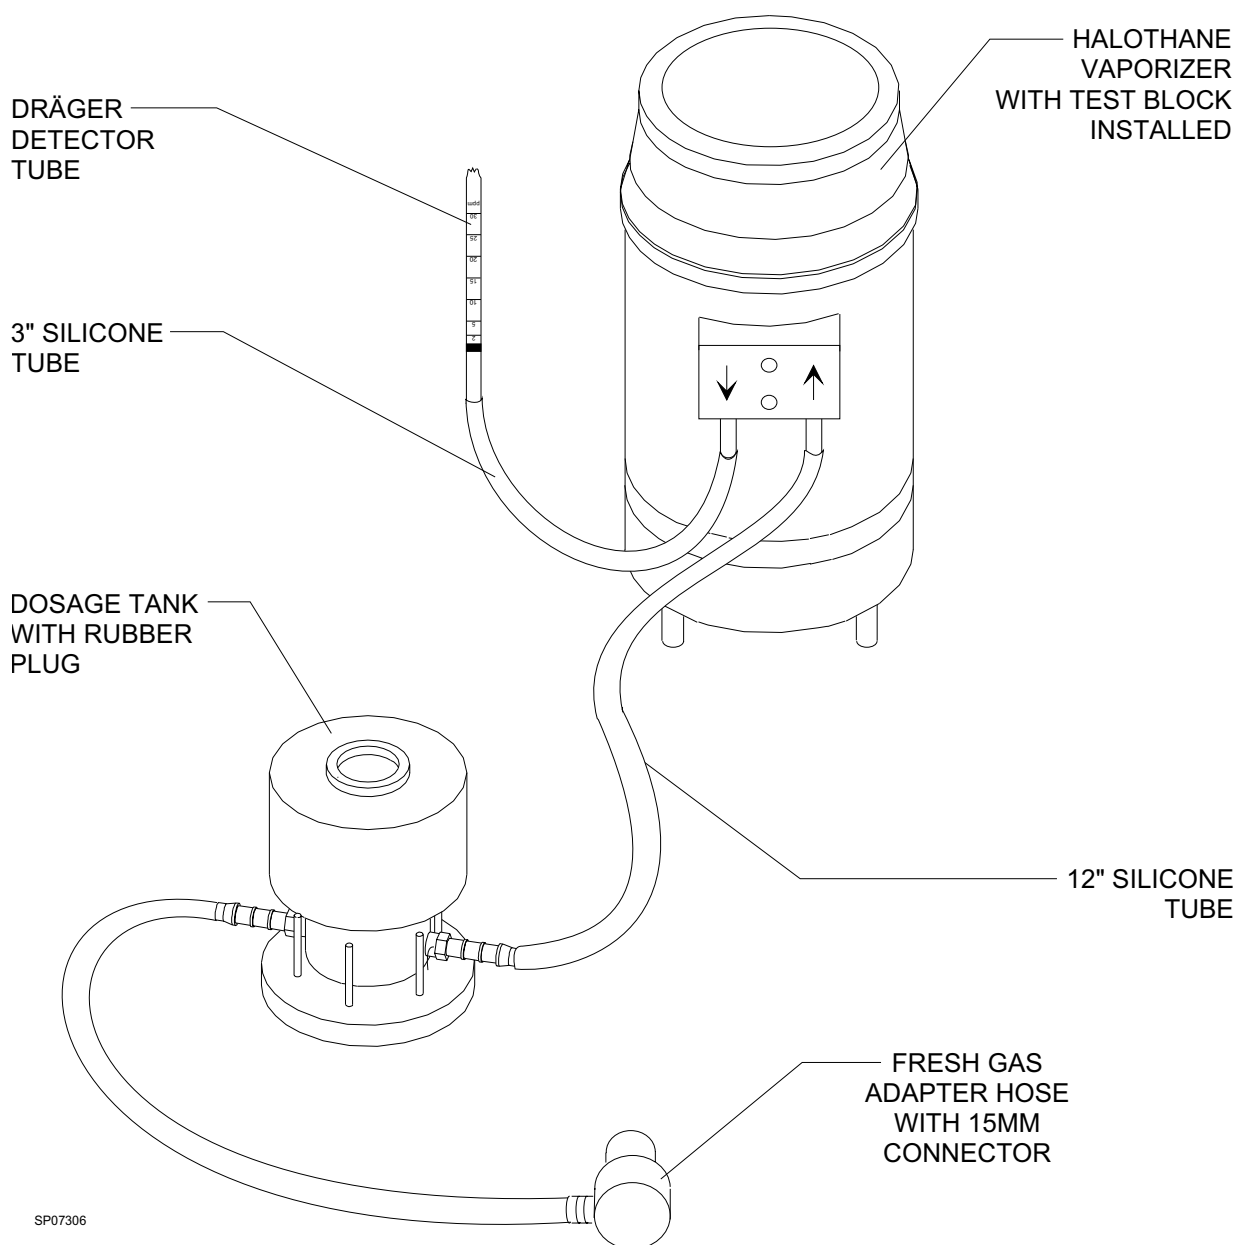

Figure 2: VAPORIZER TEST CONNECTIONS
5. Connect the vaporizer to the dosage tank as shown in Figure 2, and connect the dosage tank to the fresh gas outlet on the machine. DO NOT install the detector tube at this time.
12. Connect the detector tube to the vaporizer output as shown in Figure 2, with the black band on the tube closest to the vaporizer.